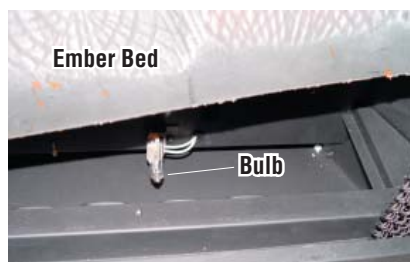

Figure 13
- i. With the ember bed removed, the 2 ember bed light bulbs will be visible (see Figures 13 and 14).